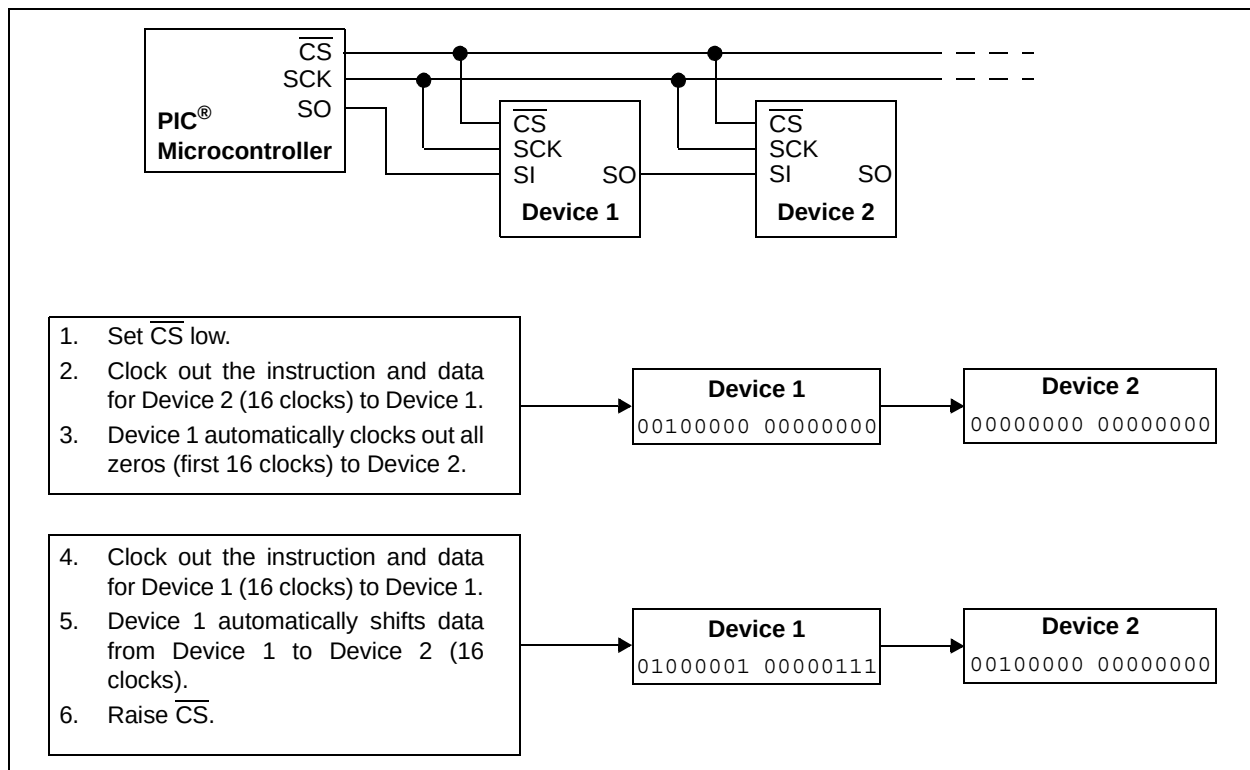
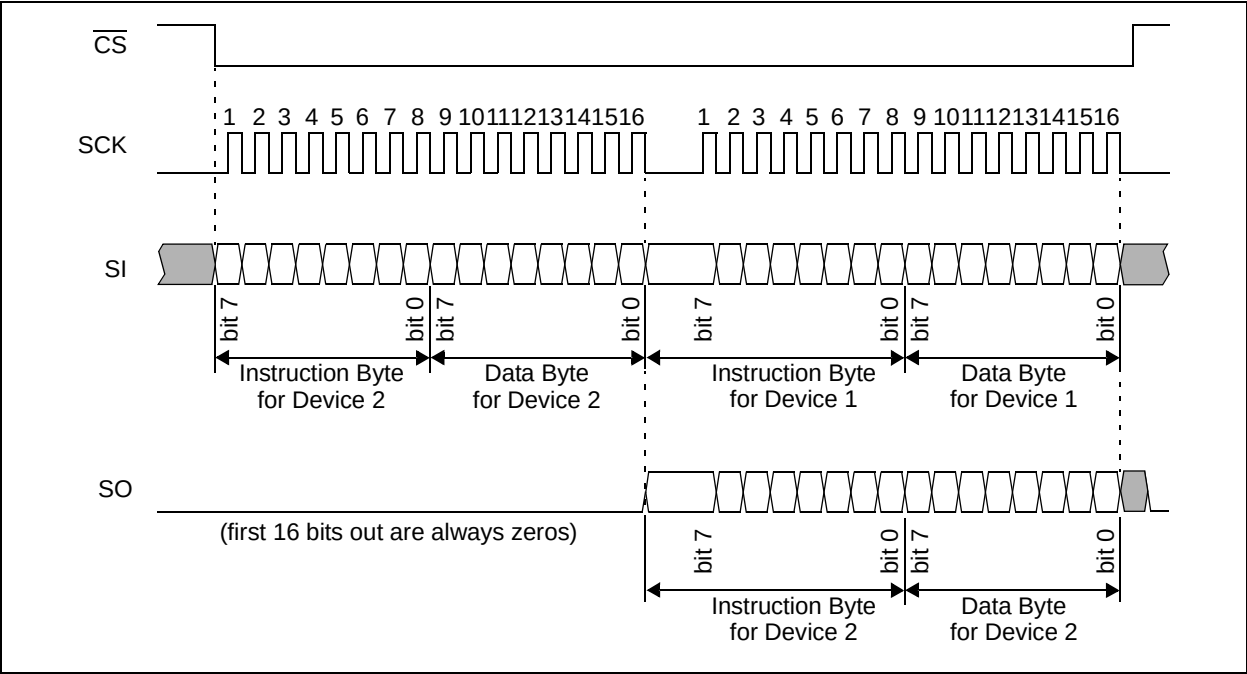
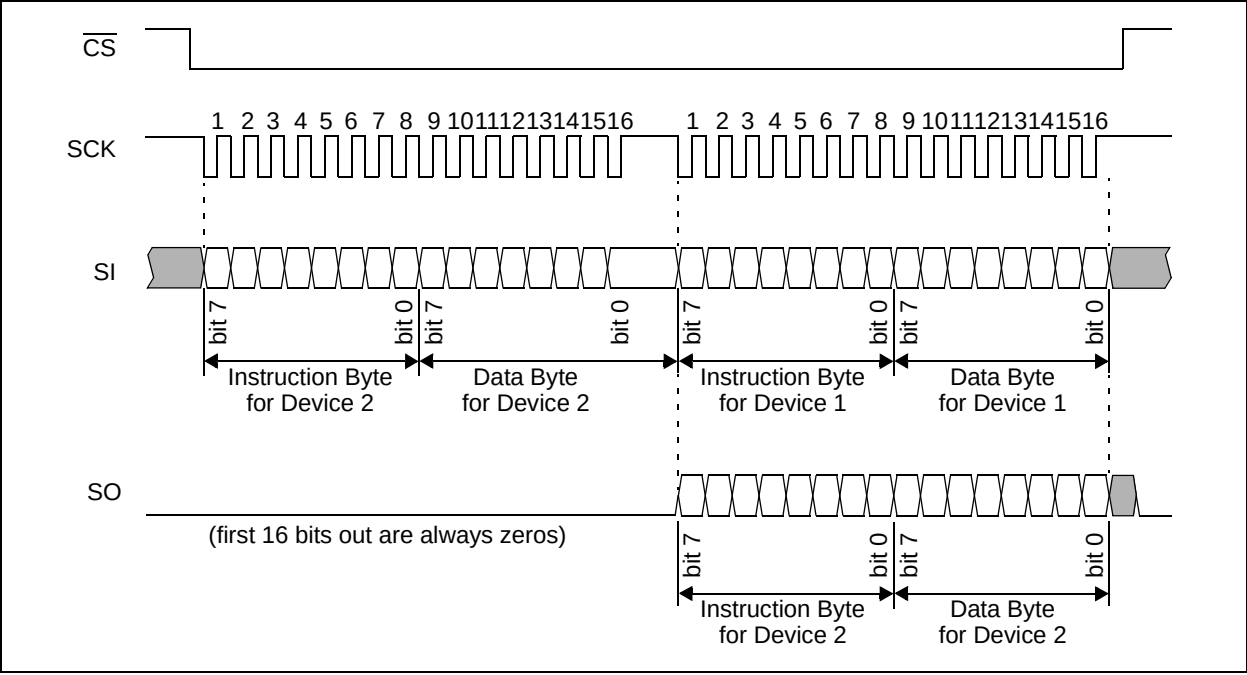

FIGURE 5-3: Daisy Chain Configuration.
FIGURE 5-4: Serial bus sequence for daisy-chain configuration; SPI 0,0 mode.
FIGURE 5-5: Serial bus sequence for daisy-chain configuration; SPI 1,1 mode.
Multiple devices can be connected in a daisy chain configuration by connecting the SO pin from one device to the SI pin on the next device and using common SCK and $\overline{CS}$ lines (Figure 5-3). This approach reduces PCB layout complexity.
The example in Figure 5-3 shows a daisy chain configuration with two devices, although any number of devices can be configured this way. The MCP6S21 and MCP6S22 can only be used at the far end of the daisy chain because they do not have a serial data out (SO) pin. As shown in Figure 5-4 and Figure 5-5, both SI and SO data are sent in 16-bit (2 byte) words. These devices abort any command that is not a multiple of 16 bits.